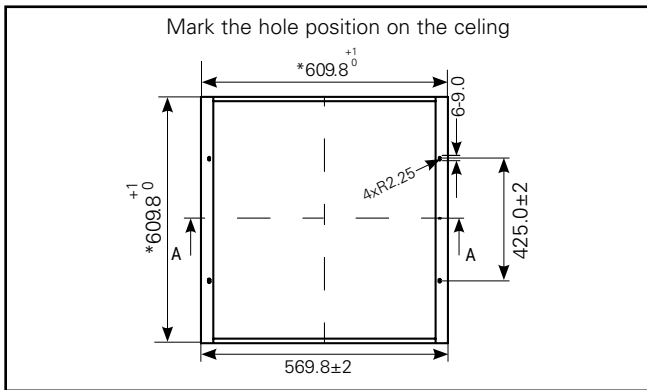

Figure 8.
Step 1: Mark the mounting hole position on the ceiling, using the assembled frames as reference. (See Fig. 8.)